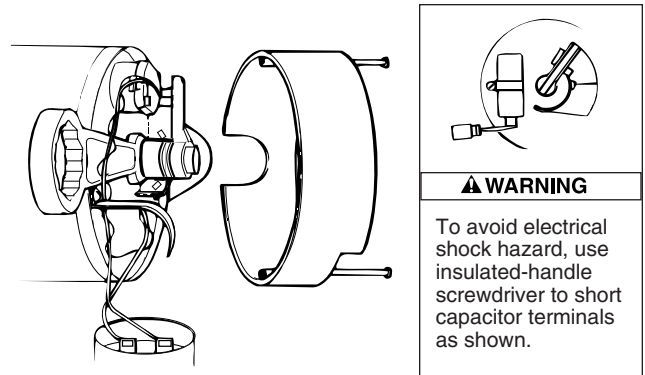

Figure 21 – Hold Shaft
2. If impeller must be replaced, loosen two machine screws and remove motor canopy (see Figure 21).
3. **WARNING** Capacitor voltage may be hazardous. To discharge capacitor, hold insulated handle screwdriver **BY THE HANDLE** and short capacitor terminals together (see Figure 21). Do not touch metal screwdriver blade or capacitor terminals. If in doubt, consult a qualified electrician.